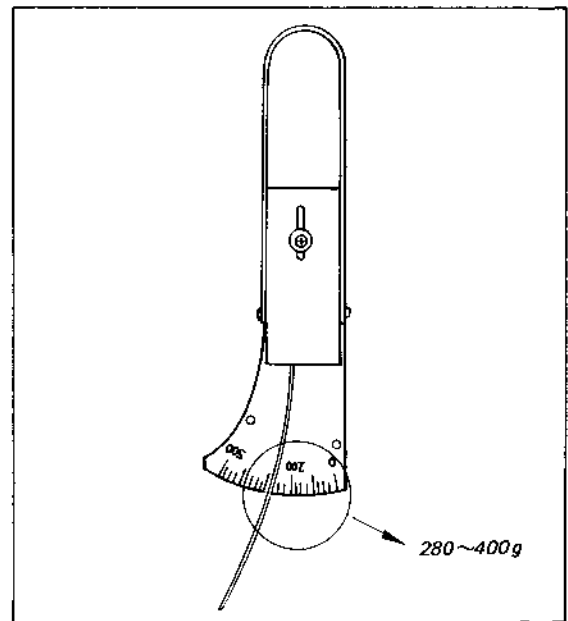

Fig. 3-13 Spring scale reading
5. The readings should be between 280 and 400 grams as shown in Fig. 3-13.